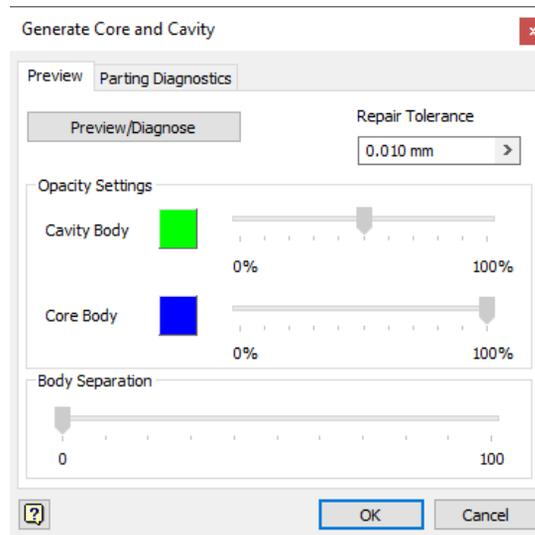

Figure 19-57 The *Generate Core and Cavity* dialog box
1. Choose the **Generate Core and Cavity** tool from the **Parting Design** panel in the **Core/Cavity** tab of the **Ribbon**; the **Generate Core and Cavity** dialog box is displayed, as shown in Figure 19-57.